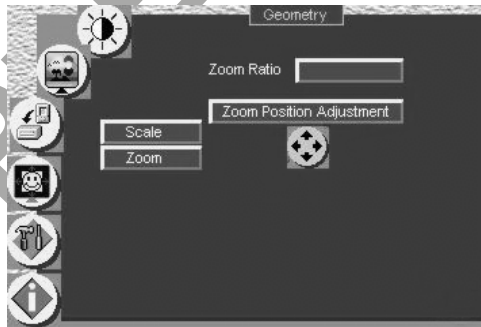

Figure 29: Geometry (Zoom Position Adjustment) Screen
- Using the OSD Menu buttons (see Figure 29)³